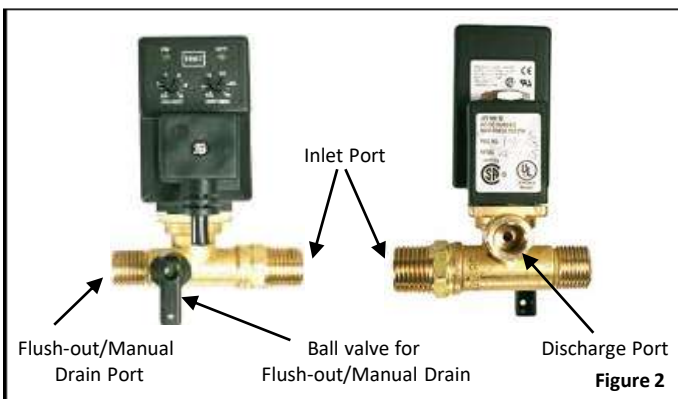

Figure 2
1. Figure 2 shows the location of the inlet port, the outlet port, and the strainer flush out port, and flush out ball valve/manual drain.